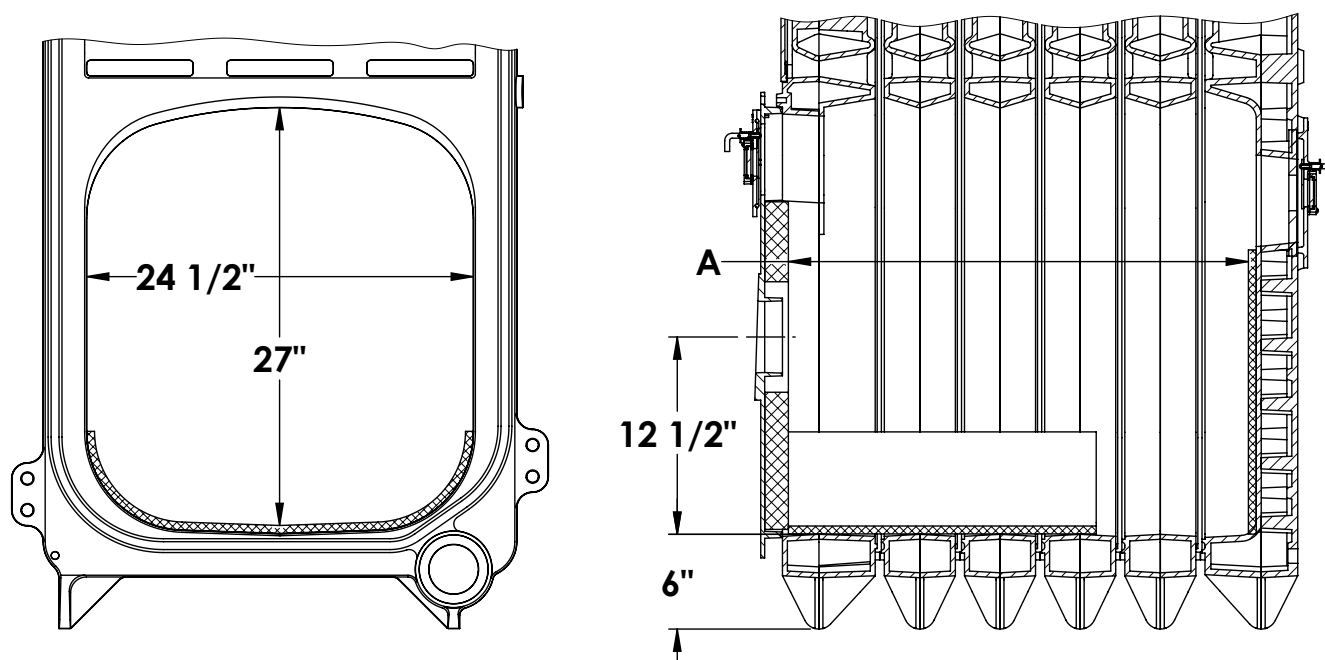

Figure 6.1: Combustion Chamber Layout – See Table 6.1 for Dimensions
3. See Figure 6.1 and Table 6.1 for combustion chamber dimensions.